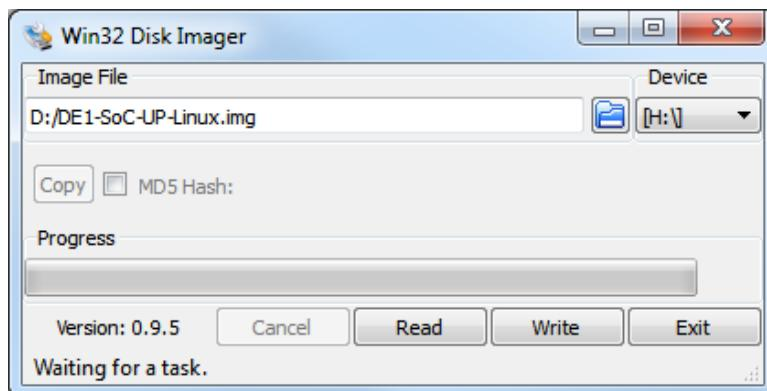

Figure 1. The Win32 Disk Imager tool
2. Select the drive letter corresponding to the microSD card under Device, as shown in Figure 1.
3. Select the DE1-SoC-UP-Linux.img image under Image File, as shown in Figure 1.